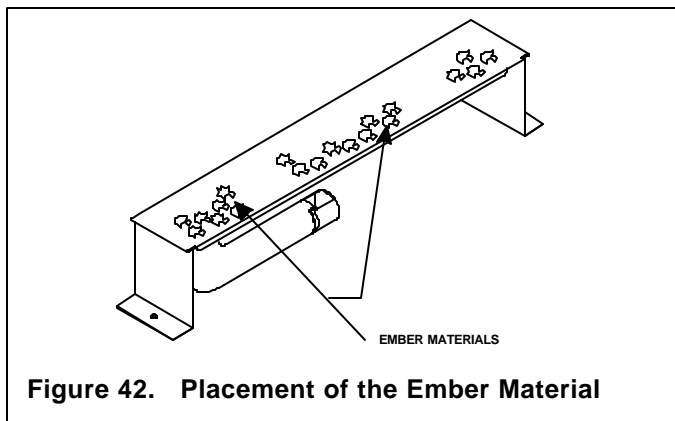

Figure 42. Placement of the Ember Material
- Place dime size pieces of ember material about 1/2 inch apart near port holes in burner top. Do NOT press embers into burner ports. Cover the top of the burner with a single layer of ember material. For best performance do NOT place embers on the ports at the rear of the burner (see Figure 42).